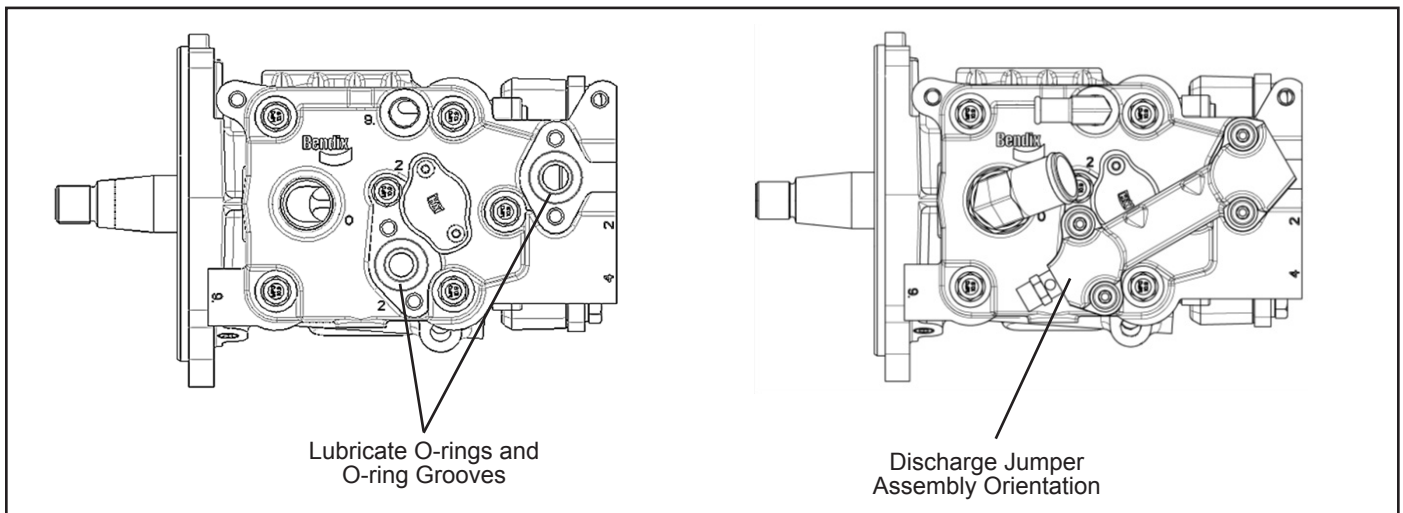

FIGURE 13 - DISCHARGE JUMPER ASSEMBLY
- Apply a coating of lubricant to the two discharge jumper o-rings (40) and install the o-rings into the two o-ring grooves on the cylinder head (13).
- If the safety valve (12) was previously removed from the discharge jumper (41), screw the safety valve into the side port of the discharge jumper (37) and torque to 200–249 in-lbs (22.5–28 N•m).
- Position the discharge jumper (37) over the cylinder head (13) such that it lines up with the four attachment bolt holes. *Refer to Figure 13* to ensure proper orientation on the cylinder head (13) *Note: There is only one way the discharge jumper can be installed on the cylinder head.*
- Install the discharge jumper washer (39) and cap screw (38) in each of the four holes on the discharge jumper (37). Hand tighten the four cap screws and torque in a cross pattern to 115–133 in-lbs (13–15 N•m).